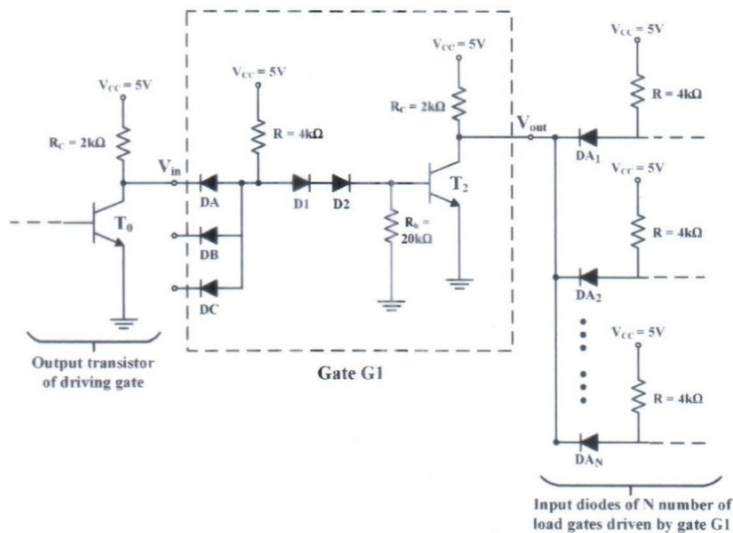

Fig. 1
- b) In Fig. 1, gate G1 is a 3-input DTL NAND gate that has a fan-out equal to N (output of G1 is driving one of the inputs of N other similar 3-input NAND gates). If all the inputs of gate G1 is at logical HIGH state, determine the approximate value of N. [Here, $\beta = 50$ and $\sigma = 0.85$] [10] (CO2, PO2)